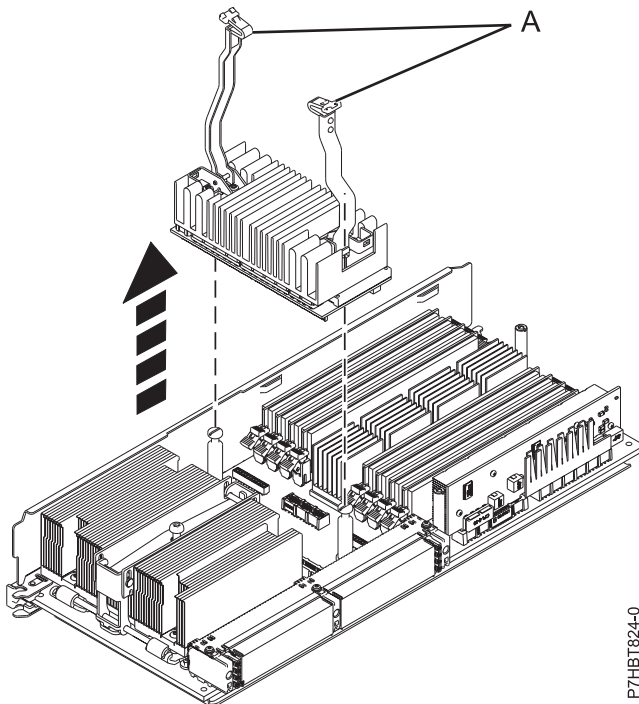

Figure 12. Removing the processor voltage regulator module from the system
- b. Lift both of the mechanical voltage regulator arms (A) upward at the same time until they are in the vertical position, as shown in Figure 12.
- c. Carefully pull up on both of the arms (A), at the same time, to lift the processor voltage regulator module from the system processor assembly.